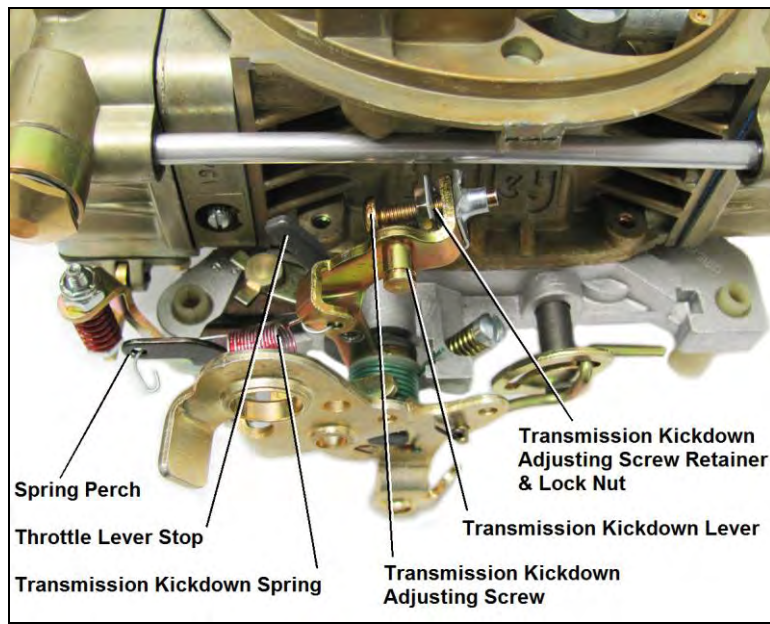

Figure 4
2. Insert the transmission kickdown adjusting screw with the black retaining clip on the transmission kickdown lever (Figure 4).
4. Install the transmission kickdown spring between the transmission kickdown lever and spring perch (Figure 4).